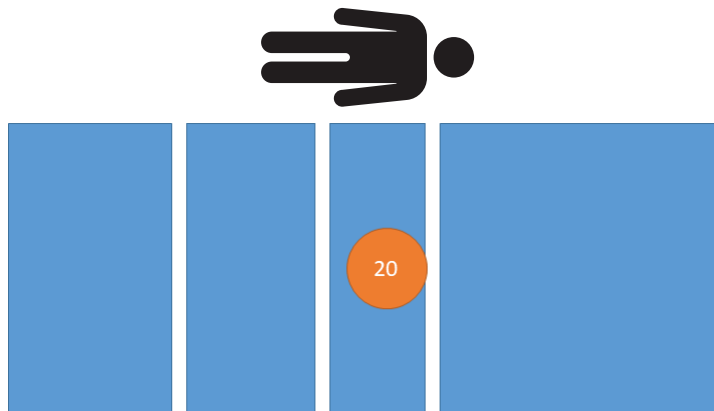

Figure 18 – Weigh performance test - 20 kg
1. Using calibrated weights, place 20 kg on the product (Figure 18).
11. Using calibrated weights, place 20 kg on the product (Figure 18).